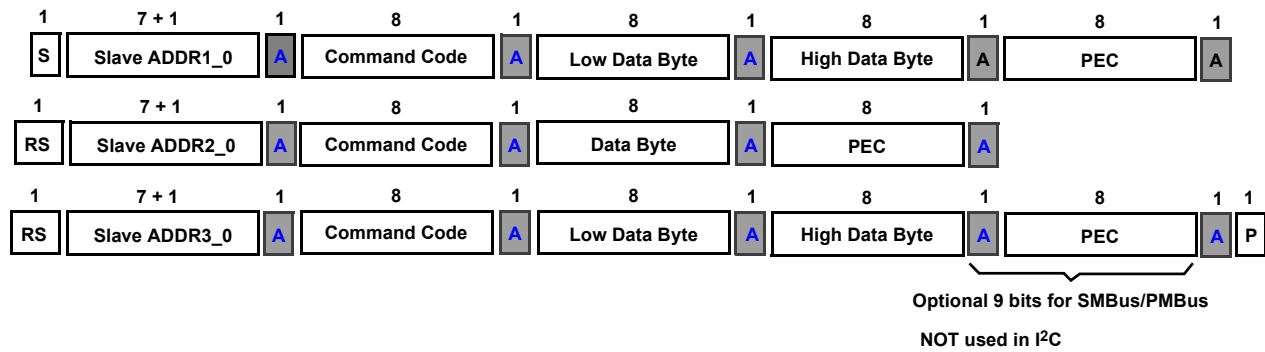

Figure 49. SMBus/PMBus/I2C Command Protocol
For proper operation, follow the SMBus, PMBus, and I²C protocol shown in Figure 49 on page 41. Note: the STOP (P) bit is NOT allowed before the repeated START condition when reading the contents of a register.